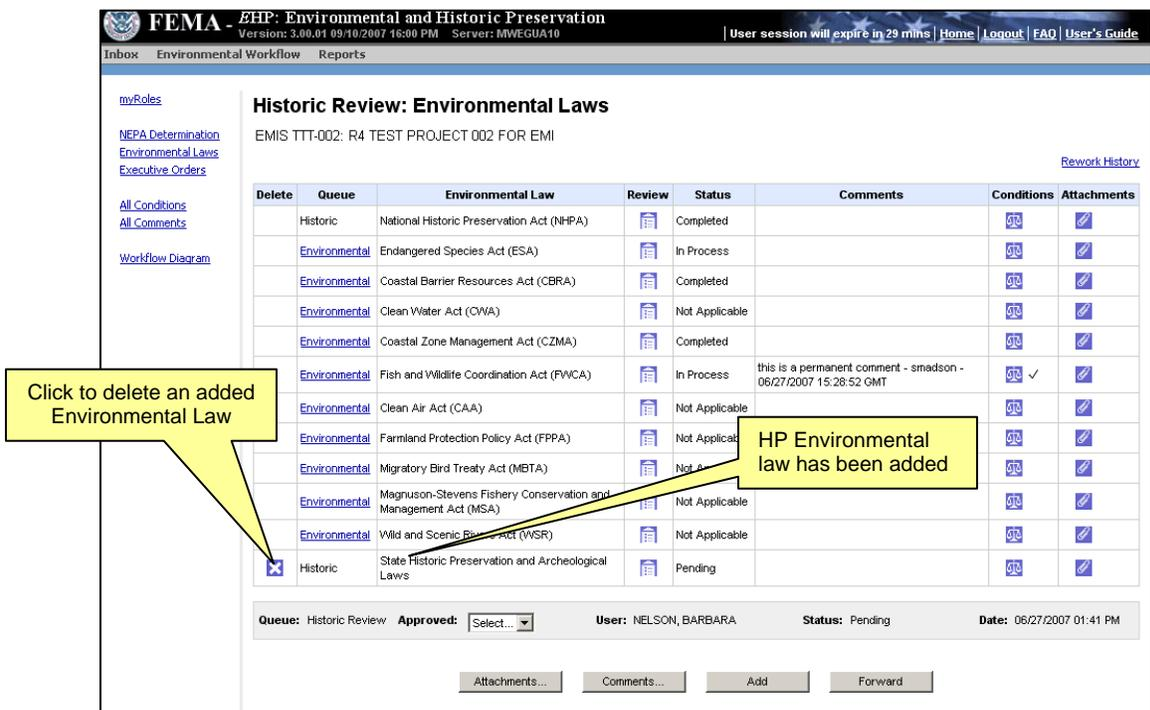

Figure 3.16: Deleting Additional HP Laws in the Technical Review
- If a law is added in error, the Reviewer can delete it from the review Queue by selecting the **Delete** icon  in the *Delete* column (Figure 3.16).